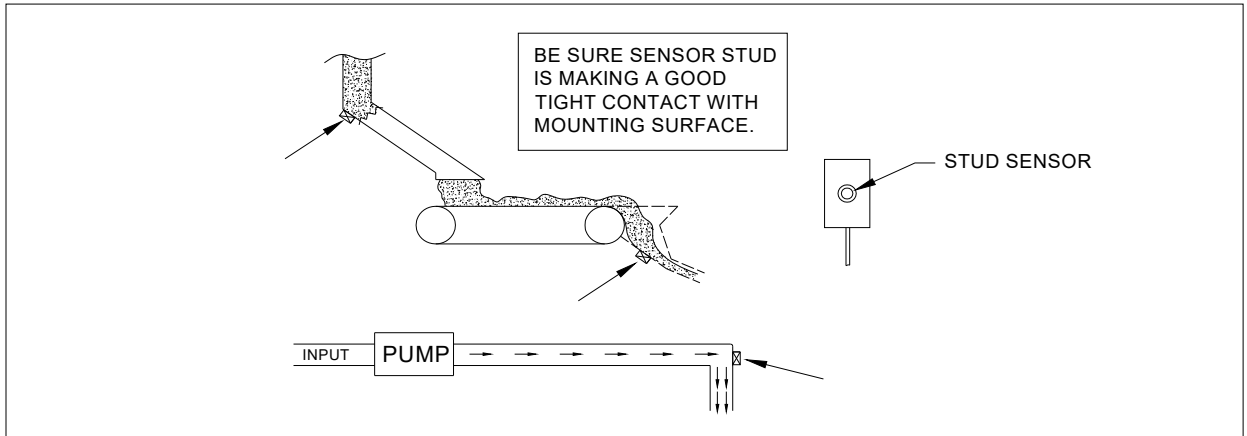

Figure 7
- Point where material drops from conveyor on the chute (Fig. 7)